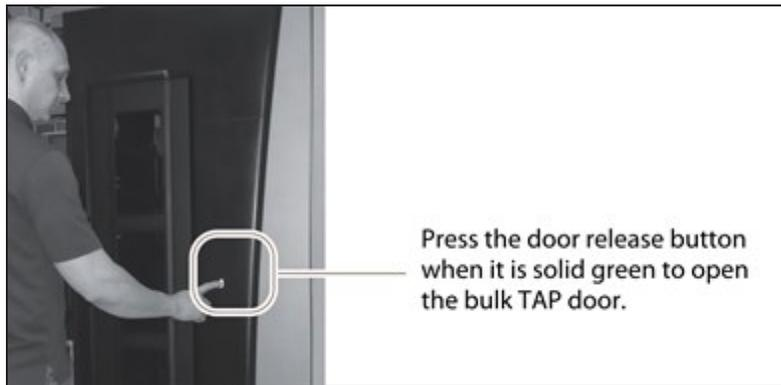

Figure 238 Press the door release button to open the door.
When you place a magazine in the bulk TAP, make sure that the textured surface (1) on each side of the magazine is toward the inside of the library and that the guides on the sides of the magazine fit into the media guides on the media shelf (2), as shown in Figure 238 on page 328. Loading the magazines incorrectly or at an angle can result in damage to the carousel or the robotics.